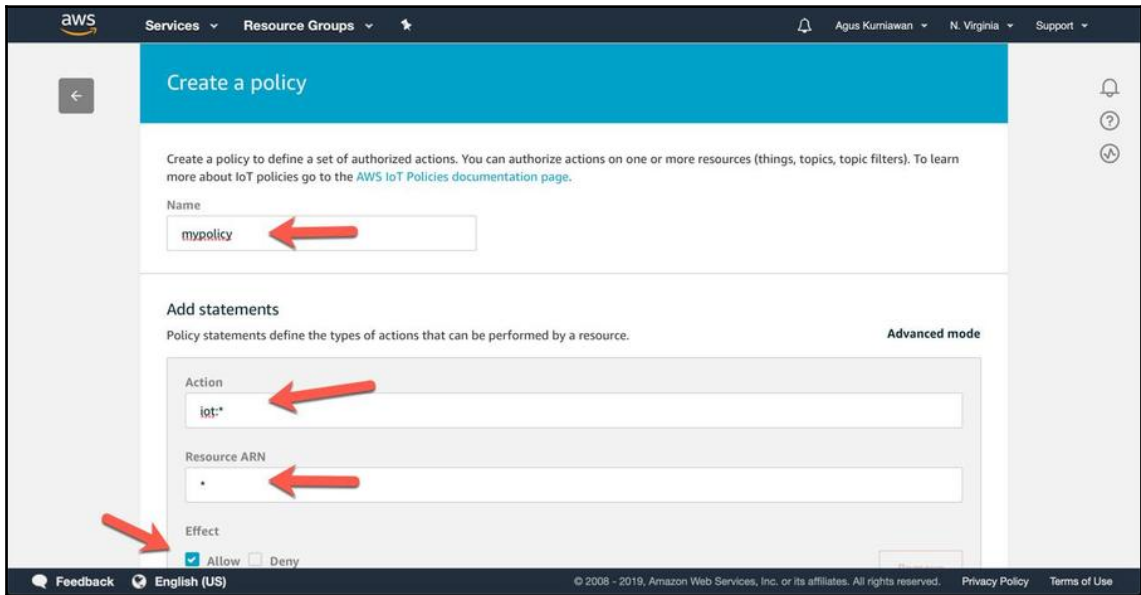

Figure 10.8: Giving the policy name and its permissions
5. After you have clicked on **Create**, you will get a web form as shown in *Figure 10.8*.